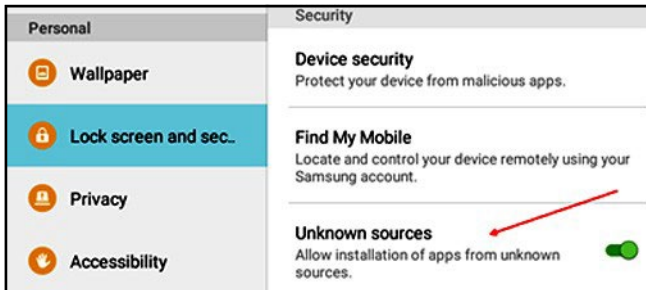

Figure 56: Security Settings
2. In the tablet settings, enable the security option to allow the installation of software from “Unknown sources” for this installation only (see Figure 56 below).